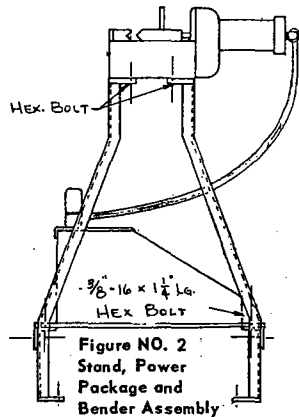

Figure NO. 2
2. Place the Hydraulic Power Package Assembly in place on the stand cross-angles as illustrated in Figure NO. 2 using 3/8-16X1-1/4" LG. Hex Bolts, Lockwashers and Nuts provided.
3. Place the Check Bender Main Assembly in place on top of the stand as illustrated in Figure NO. 2 and fasten using the 3/8-16X1" LG. Hex Bolts and Lockwashers provided.